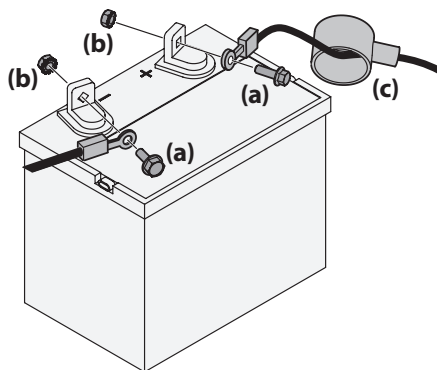

Figure 2-11
3. Remove the plastic cover, if present, from the positive battery terminal and attach the red cable to the positive battery terminal (+) with the bolt (a) and hex nut (b). See Figure 2-11.
4. Remove the plastic cover, if present, from the negative battery terminal and attach the black cable to the negative battery terminal (-) with the bolt (a) and hex nut (b). See Figure 2-11.